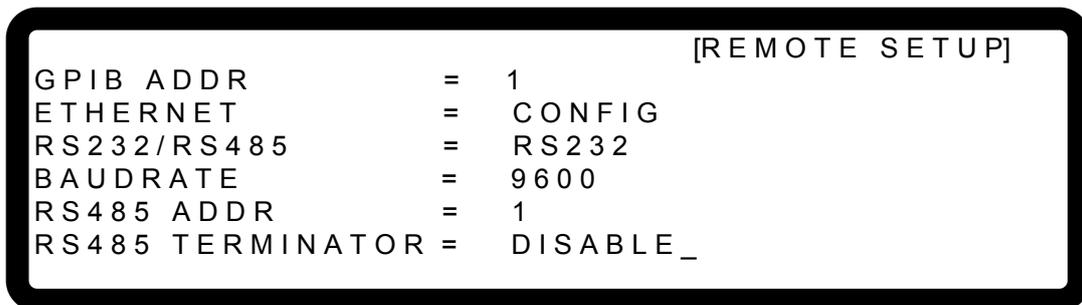

Figure 3-127
1. Use “”, “” keys to move the cursor to RS485 TERMINATOR column as Figure 3-127 shows.